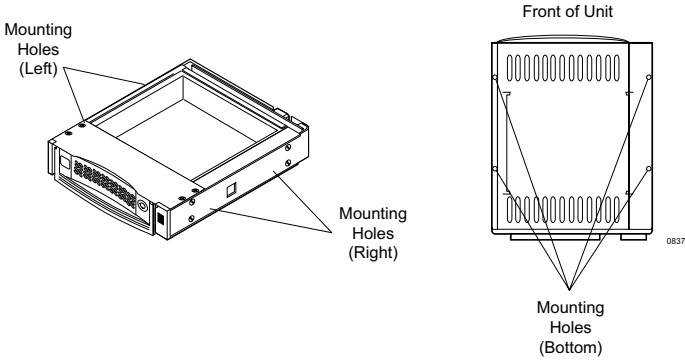

Figure 8A: Receiving Frame Mounting Holes
3. With the drive carrier locked in place inside the receiving frame, install the DE110 into the 5.25" drive opening in the computer or expansion chassis. Use the appropriate guides to position the Data Express, and fasten it into place with the four (4) #6-32 Phillips screws provided. Figure 8A illustrates the location of the mounting holes. Mounting holes are provided on each side and the bottom of the receiving frame to accommodate a variety of mounting configurations. Use the mounting holes which best suit the computer or expansion chassis configuration. Note that bottom mounting holes require self-tapping screws (not provided).